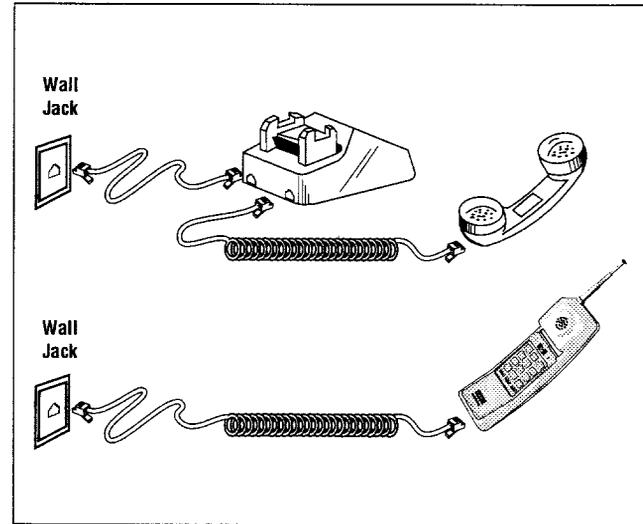

Figure 3. Telephone Cord and Handset Cord.
(refer to Fig. 3.)
This test is used to check a DETACHABLE handset (handset to desk unit) cord or telephone (telephone to wall) cord (see Fig. 3.). IF CORD IS NOT DETACHABLE AT BOTH ENDS, IT CAN NOT BE TESTED; GO ON TO THE OTHER TESTS. If the telephone cord is found to be in proper working order, any problem is now isolated to the telephone or the telephone company's equipment. If a cord is defective, other tests should still be carried out (after replacing the defective cord) to insure that there is no problem with the telephone itself. Only one cord can be tested at a time. Do not plug in both cords at the same time. Handset and telephone cords are not interchangeable and should not be plugged into the wrong jacks.
2. To test the telephone cord (see Fig. 3. for example of cord type) for continuity or shorts, plug both ends of the cord into the TELEPHONE CORD TEST JACKS. If the SINGLE LINE OK indicator lights, the cord is good for normal telephone operation. If the AUX OK indicator **also** lights, the cord is good for lighted telephone operation or two-line telephones. The SINGLE LINE OK indicator shows the condition of the two wires in the cord used for dialing, ringing, and conversation. The AUX LINE OK indicator shows the condition of the two wires in the cord that carry power to the night light in a telephone or the auxiliary line in two-line telephones. If the indicators fail to light, the cord is defective. Gently bend and